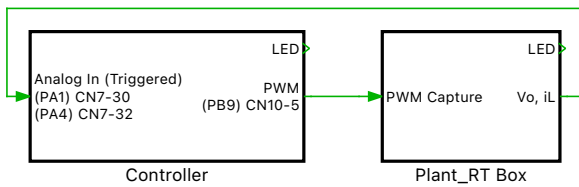

Figure 7: Top level schematic of the plant and the controller subsystems
- 2 In the same PLECS model file from the end of Task 1.3, replace the existing circuit of the buck converter with the “Plant_RT Box” subsystem, as shown in Fig. 7.